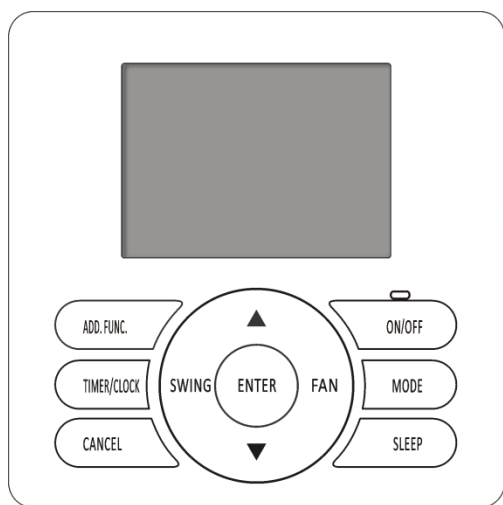
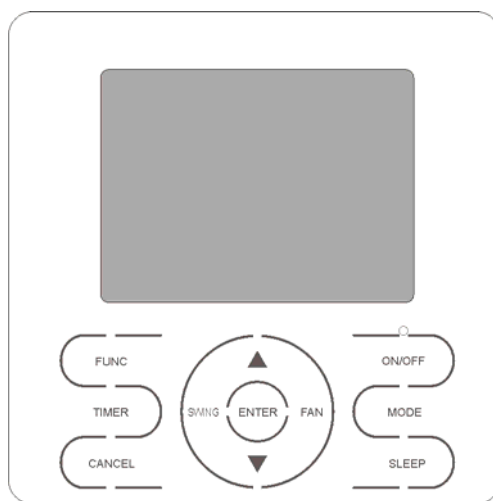

Fig.2 YXE-C01U/ YXE-C02U(E)
Fig.3 YXE-D01U(E)
Fig.2 short wiring
Fig.3 output line
Pins of the OUT INPUT CN16 socket shown in the electrical wiring diagram of Fig 1 are tacitly approved to be in short circuit state under the factory state (an external short circuit plug shown as Figure 2).
- 1) When using the room card control, the user cuts off the short wire shown in Figure 2 and connects the red lines to the control switch (supplied by user), and the connecting wire should be 22AWG or above specification. The switch is closed under normal conditions and off under abnormal conditions.
- 2) When using the fire protection , the user cuts off the short wire shown in Figure 2 and connects the White lines to the control switch (supplied by user), and the connecting wire should be 22AWG or above specification. The switch is closed under normal conditions and off under abnormal conditions.
- 3) When using the ON/OFF function, the user cuts off the short wire shown in Figure 2 and connects the White lines to the ON/OFF control switch (supplied by user), and the connecting wire should be 22AWG or above specification. In normal conditions, the machine starts once the switch is closed and the machine shuts down once the switch is off.
Fig.3 main control board
3 pins of the OUT INPUT CN16 socket shown in the electrical wiring diagram of Figure 1 are tacitly approved to be in short circuit state under the factory state (an external short circuit plug shown as Figure 2), and the OUT INPUT CN16 socket of main control board is shown as Figure 3.
- 4) When using the room card control or fire protection, the user cuts off the short wire shown in Figure 2 and connects the red line and the black line to the control switch (supplied by user), and the connecting wire should be 22AWG or above specification. The switch is closed under normal conditions and off under abnormal conditions.
- 5) When using the ON/OFF function, the user cuts off the short wire shown in Figure 2 and connects the black line and the white line to the ON/OFF control switch (supplied by user), and the connecting wire should be 22AWG or above specification. In normal conditions, the machine starts once the switch is closed and the machine shuts down once the switch is off.